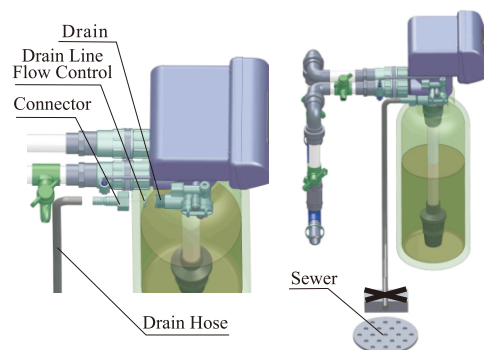

Figure 1-4
- If the valve belongs to time clock type, there are no step ② and ③.
⑤ Install drain pipeline
- As the Figure 1-4 shows, slide the drain hose connector into drain outlet.
- Locate the drain hose well as the Figure1-4 shows.